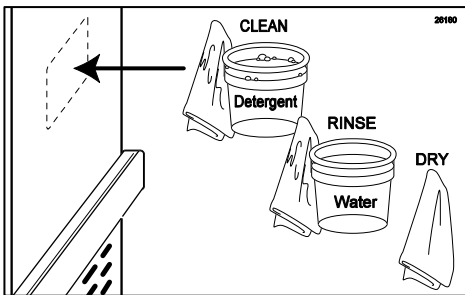

Figure 144
- Clean, rinse and dry thoroughly the area on which the Bracket will be mounted using detergent water, clean water, and single service towels. (See Figure 144.)